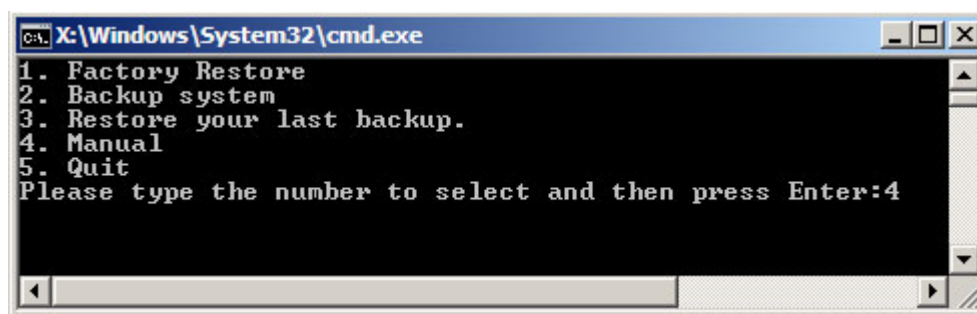

Figure D-11: Recovery Tool Menu
Step 2: The recovery tool menu appears. Type <4> and press <Enter>. (**Figure D-11**)